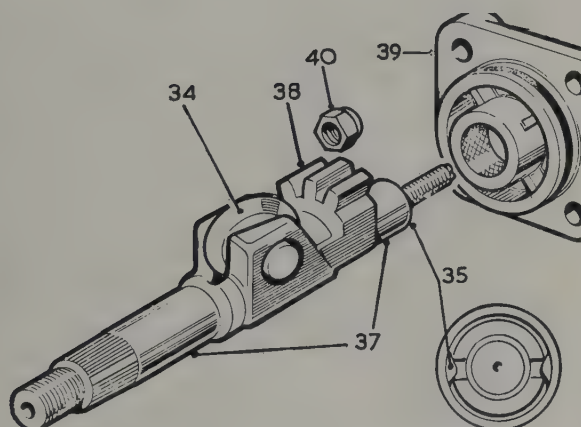

Fig. 11.43. Power steering sector shaft components
- 22 Check that there is no side play on the sector shaft roller (Fig. 11.43) also that the adjuster screw retainer is well secured by its staking. If the adjuster screw end-float exceeds 0.005 in (0.12 mm) it should be reduced by screwing in the retainer and then re-staking.